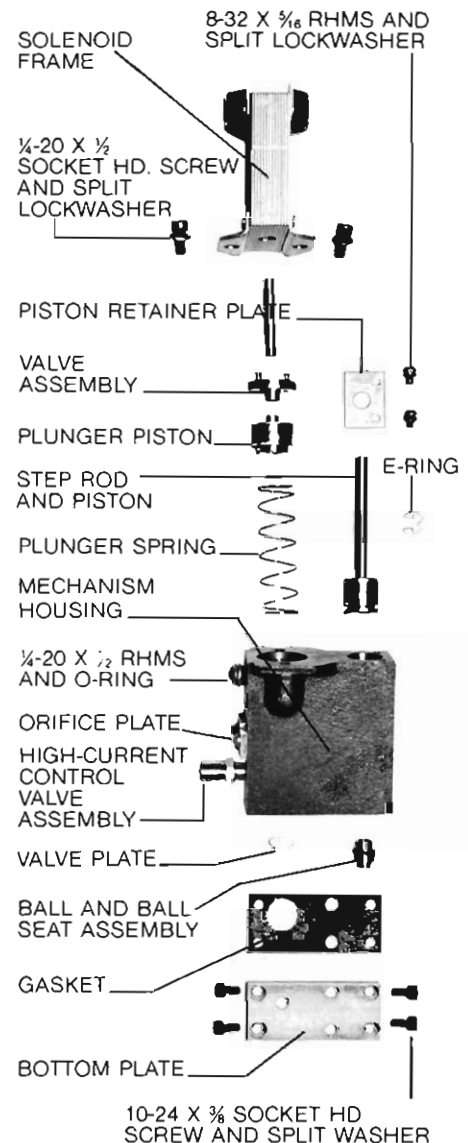

Figure 20.
1. To disassemble the mechanism follow the order shown in Figure 20.